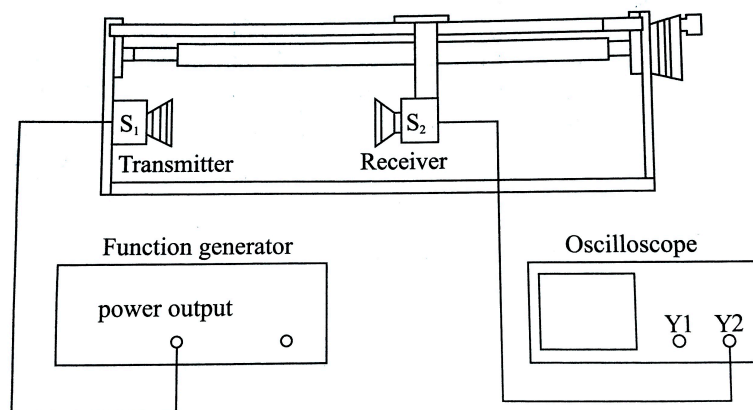

Fig. 3.13-6 Circuit configuration of the standing wave method
- (1) Familiarize yourself with the function generator, the ultrasonic speed - measuring set - up, and the dual-trace oscilloscope set up the circuit as shown in fig 3.13-6.
- (2) Turn on the oscilloscope and the function generator. Choose sinusoidal wave with frequency 35.000khz from the function generator. adjust the distance between the transmitter and the receiver to a bout 5 mm.
- (3) Adjust the knobs in the panel to make the sine wave stand still on the oscilloscope screen.
- (4) Tune the frequency of the sine wave from the function generator from 35,000khz to 45.000khz. We find that the sine wave on the screen is changing in frequency and amplitude when the amplitude of the received sine wave reaches the maximum, the frequency of the ultrasonic wave is found.
- (5) Record the frequency on the function generator as the frequency of the ultrasonic sound wave.